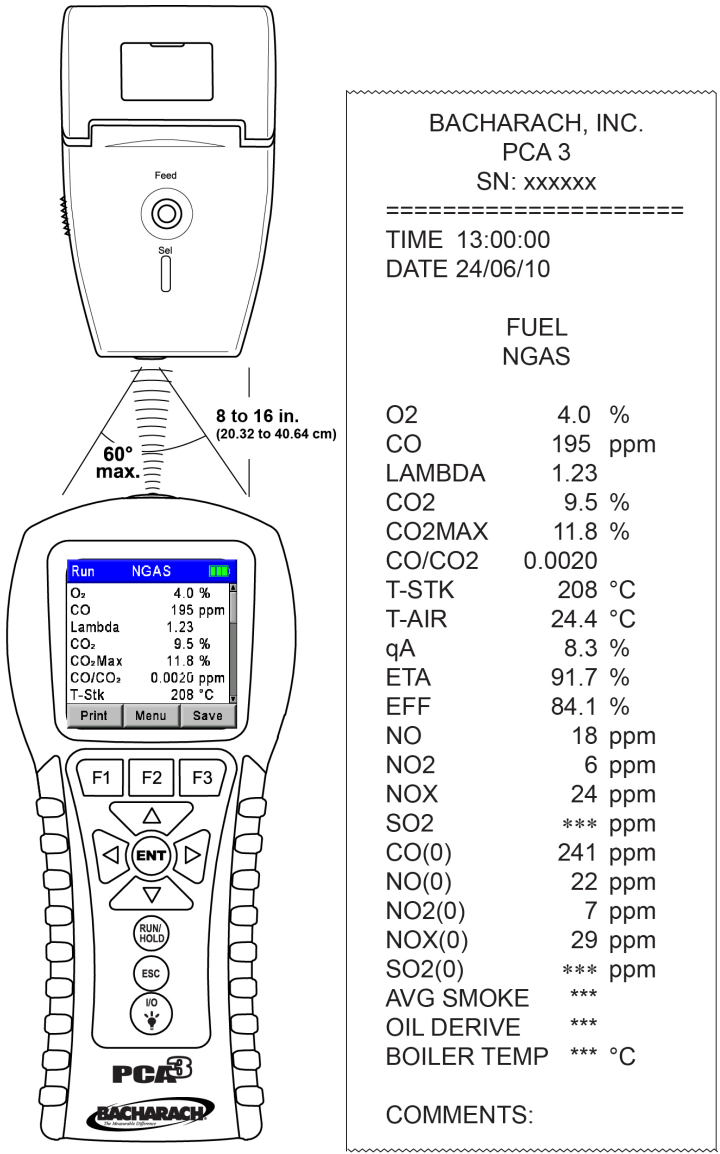

Figure 5-23. Printer Alignment and Sample Printout
2. Align the printer with the top of the analyzer as shown in Figure 5-23.
The printout shown in Figure 5-23 shows typical combustion test results of an analyzer containing O₂, CO_{LOW}, NO, and NO₂ sensors. Note that since the SO₂ sensor is not installed, three stars (* * *) appear in their data fields.